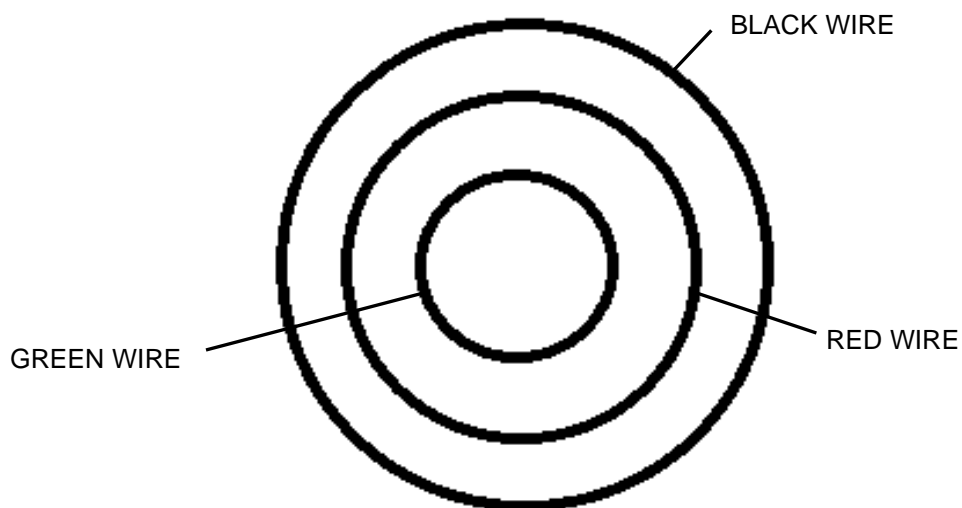

Figure 50: Airmaster propeller signal wire to slip-ring disc connection (vacuum pump fitted).
- Ensure that the electrical signal wire connections are secure and correct (i.e. a specific coloured wire on the propeller / propeller extension side connects to the correct slip-ring / terminal on the slip-ring disc (as marked upon removal, or refer to Figure 50).